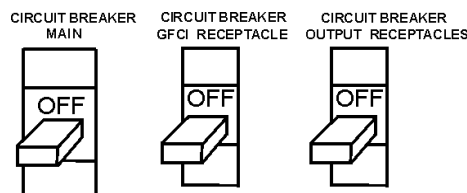

Figure 32. Main, GFCI and Load circuit breakers
1. Switch both the MAIN, GFCI and LOAD circuit breakers (Figure 32) to the "OFF" position.